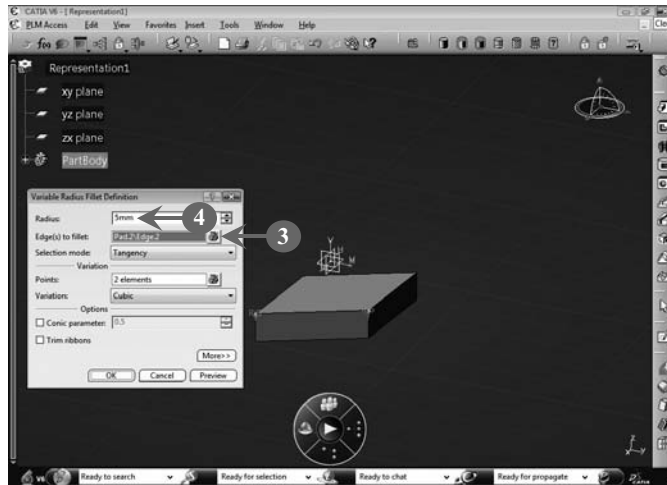

FIGURE 3.50
3. Select the edge you want to fillet. The number of selected edges is shown in the **Edge(s) to fillet** box (**Figure 3.50**).
4. Set the radius of the fillet by entering the appropriate value in the **Radius** option. In our case, we set the radius of the fillet applied on Edge2 to 5 mm, as shown in Figure 3.50: